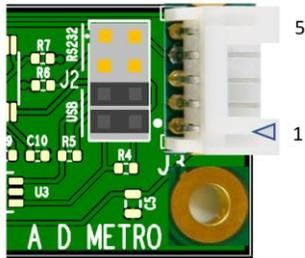

Figure 5: Jumper Positions For USB Operation
- Plug the two (dark-colored) jumpers onto header J2 as shown in Figure 5.